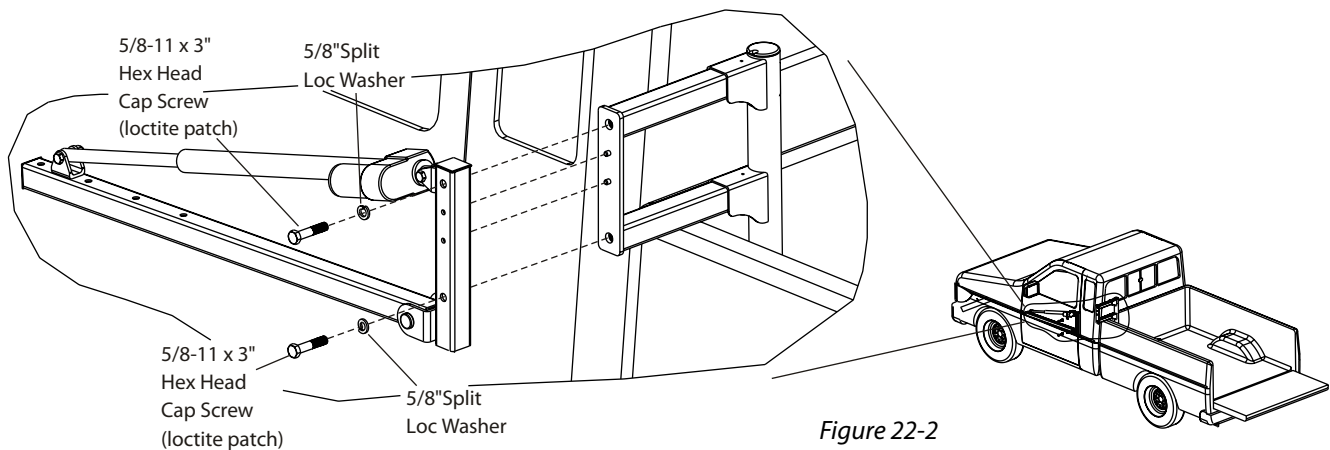

Figure 22-2
2. Attach lifting Arm as indicated. Tighten bolts to at least 100 ft. lbs. *[Figure 22-2]*